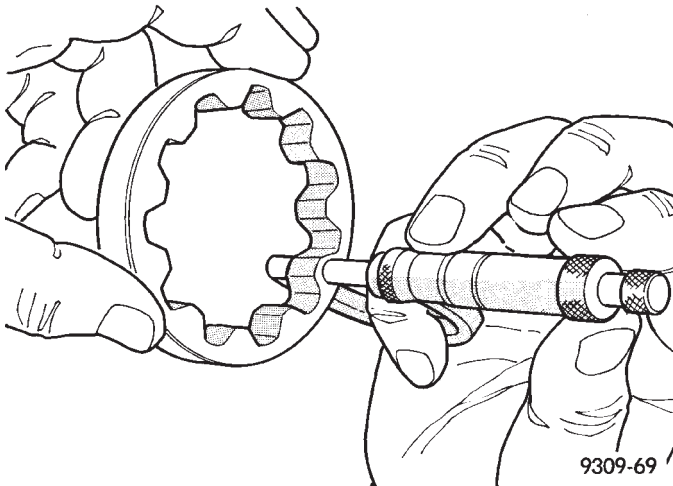

Fig. 94 Measuring Outer Rotor Thickness
(3) Measure thickness and diameter of outer rotor. If outer rotor thickness measures 9.474 mm (0.373 in.) or less (Fig. 94), or if the diameter is 89.174 mm (3.5108 inches.) or less, replace outer rotor.